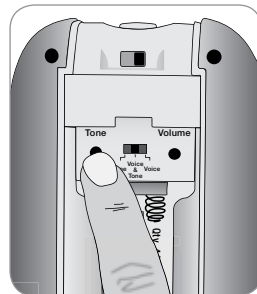

Fig. 5
3. Press TONE button (fig. 5) to scroll through the tone selections.
5. Each time you press the button, tone will change and a two (2) second sample plays. The last sample heard is the tone utilized for the alarm when the sensor is activated, depending on which monitoring mode is selected.